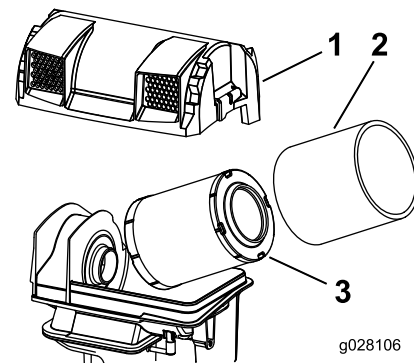

Figure 53
3. Remove the foam and paper elements (Figure 53).
4. Remove the foam element from the paper element (Figure 53).
- Install the elements onto the air-cleaner base (Figure 53).